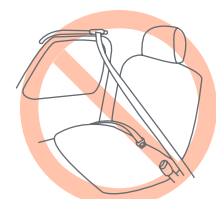

Fig. 16-2
- **DO NOT** use a shoulder belt that moves along a track. These systems typically move to surround the occupant when the door is closed. This type of belt system will **NOT** adequately restrain the Safety Seat. (Fig. 16-2).